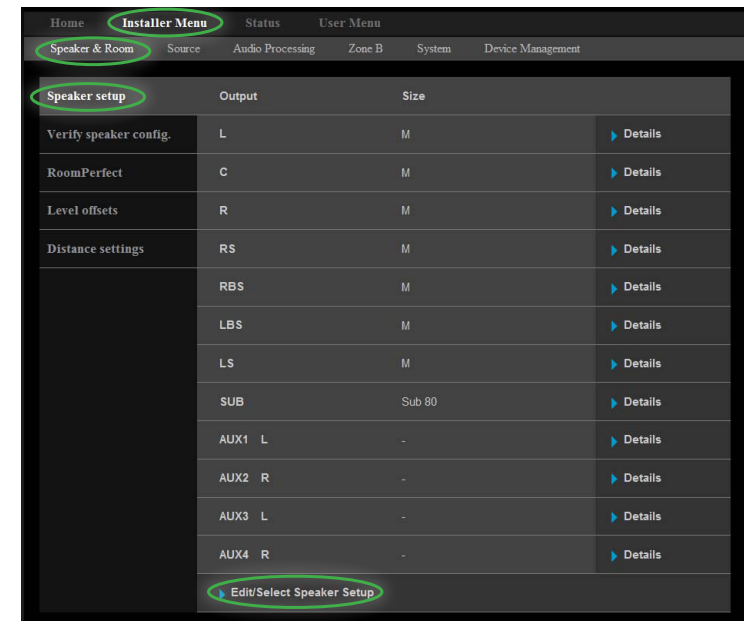

Figure 5
- Click on "Installer Menu" followed by selecting "Speaker Setup" and then "Edit/Select Speaker Setup" Menu items. Refer to figure 5.